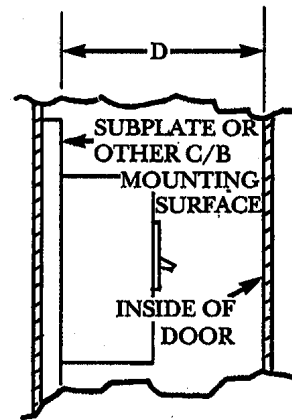
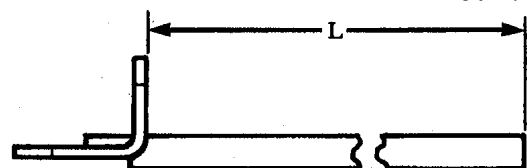

Figure 4. Determining Shaft Length
Figure 5.
- B. Remove existing accessory cover mounting screws (4).
- C. Loosely thread two slotted panhead screws, M3.5 - 10 (.393 in.) (4) into cover. Leave 1/8" space between cover surface and head of screw.
- D. Thread in insert-spacer (5), two places. Be careful not to overtorque, only seat to shoulder.
- E. Slide operating mechanism into place (1).
- F. Secure mounting screws (6) and ground wire (8).
- G. Torque the two panhead M3.5 - 10 (4) to 8 in. lbs.
- H. For SEFOM2, measure and cut shaft length to size. See Figure 4 and Figure 5.
- L. Optional NFPA79 compliant inner handle - Order TH79EF. Requires minimum Shaft length (L) of 2.50".
* Shaft furnished for max. box depth. Customer to cut when dimension is less. See Figure 4.
- C. Mount spacer plate (3) using two slotted panhead screws M3.5 - 12 (.472 in.) (4). Leave 1/8" between plate and head of screw.
- G. Torque the two M3.5 - 12 (4) to 8 in. lbs.
- H. For SEFOM2, measure and cut shaft length to size. See Figure 4.